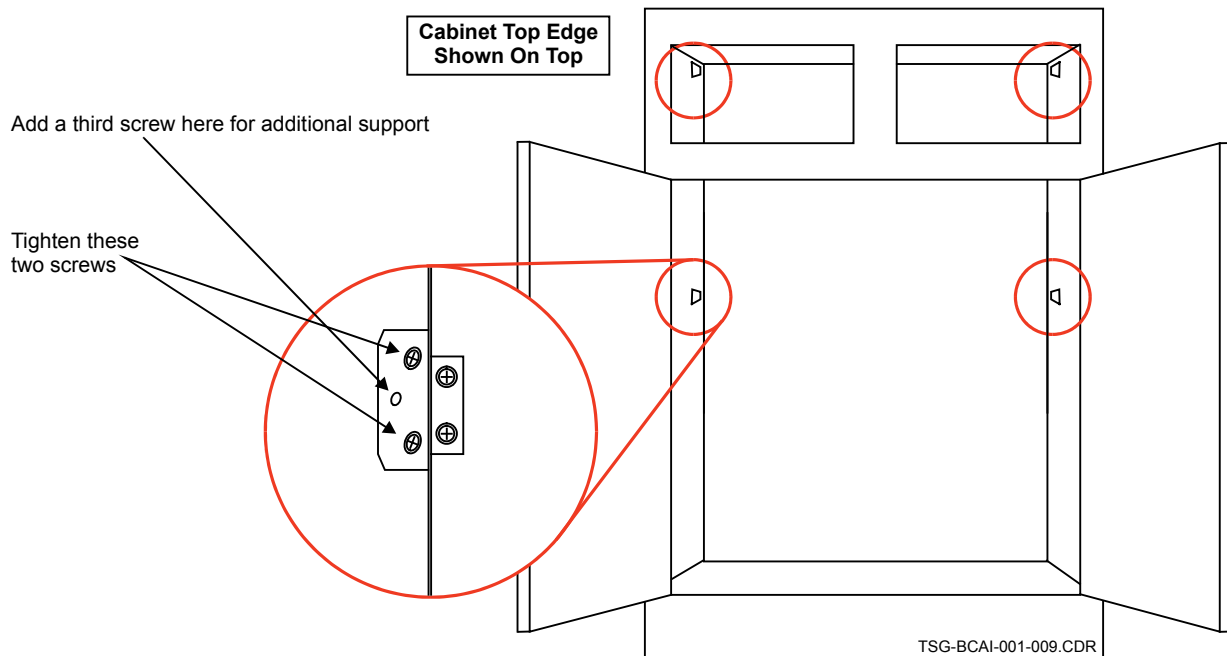

Figure 10 — Secure the Four Brackets on the Back Inside of the Cabinet
- (8) Refer to Figure 10, then reposition the cabinet so that it is standing with the topside up and then open the two doors. Secure the four brackets on the back inside sides of the cabinet by tightening each of the two screws per bracket and then adding a third screw to each bracket for additional support.